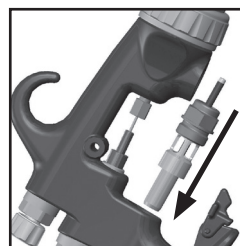

Fig. 23
9. Insert air valve assembly into gun and carefully feed over the spring and through the rear seal. (See fig 23)